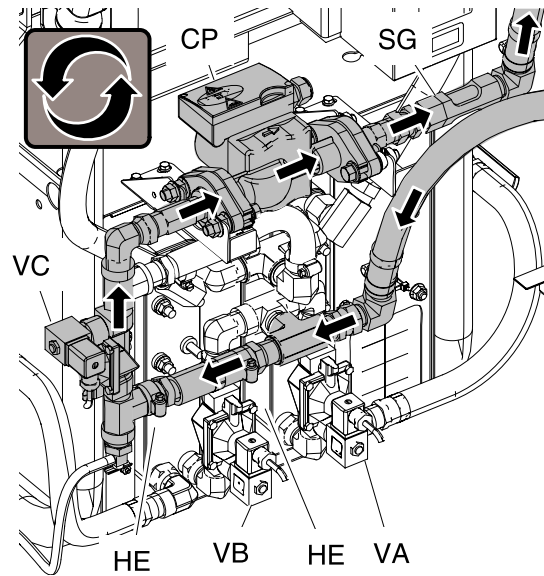

Figure 19 Proportioner Coolant Loop — A and B Valves Closed (not heating material)
When the control valves (VA, VB) close, the A and B material has reached target temperature. Coolant flows through the bypass control valve (VC), circulation pump (CP), sight glass (SG), proportioner coolant fill bottle (HF), and back to the heat exchanger in the engine coolant loop. See Fig. 19.